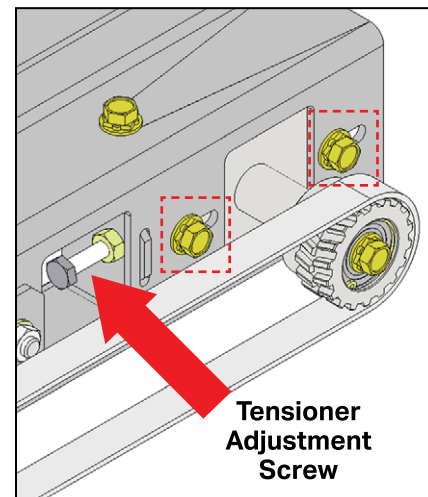

Figure 16: Tensioner Pulley and Adjustment
Loosen the tensioner assembly slightly, loosening the (2) 1/4-20 bolts on the face of the sub channel, so the tensioner assembly can slide left or right, as displayed in Figure 16.